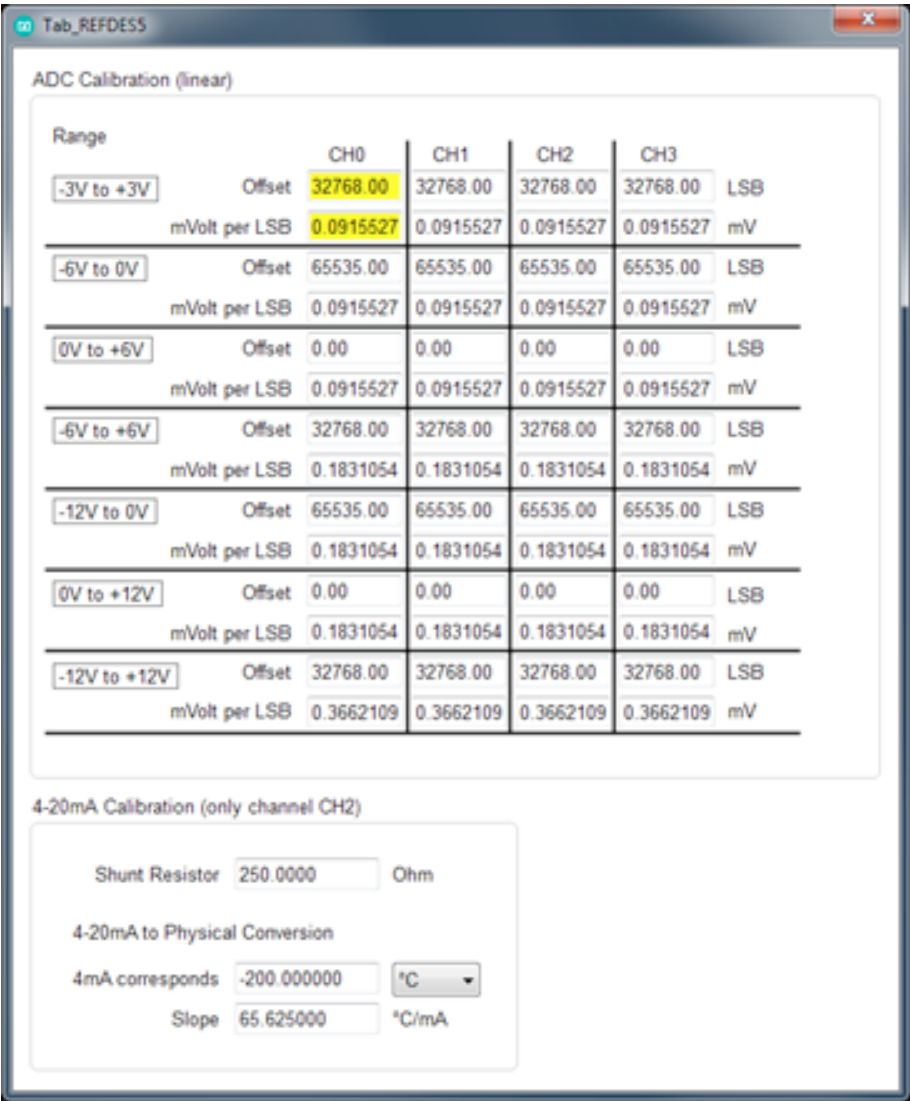

Figure 13. "Calibration" Display on Munich/Cupertino GUI
- d) **Calibrate:** If the user wishes to calibrate, this option enables a real-time calibration for each channel and each signal input range; hence, providing a robust calibration/measurements at each single physical channel and each input signal range. See Figure 13.